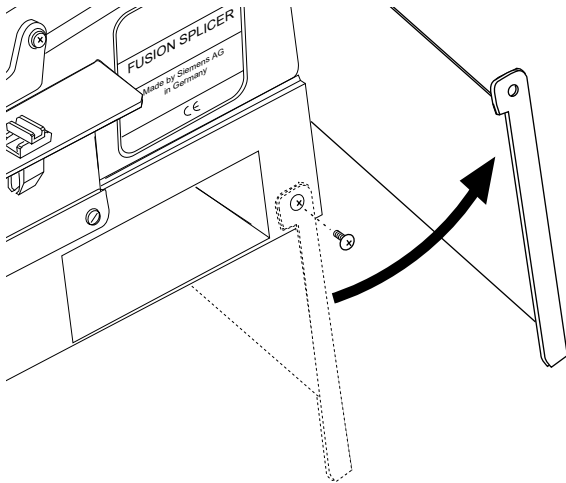

Figure 13
5.6 If you will be changing batteries while the splicer is placed in the platform, remove the tilting stand at this time (Figure 13):